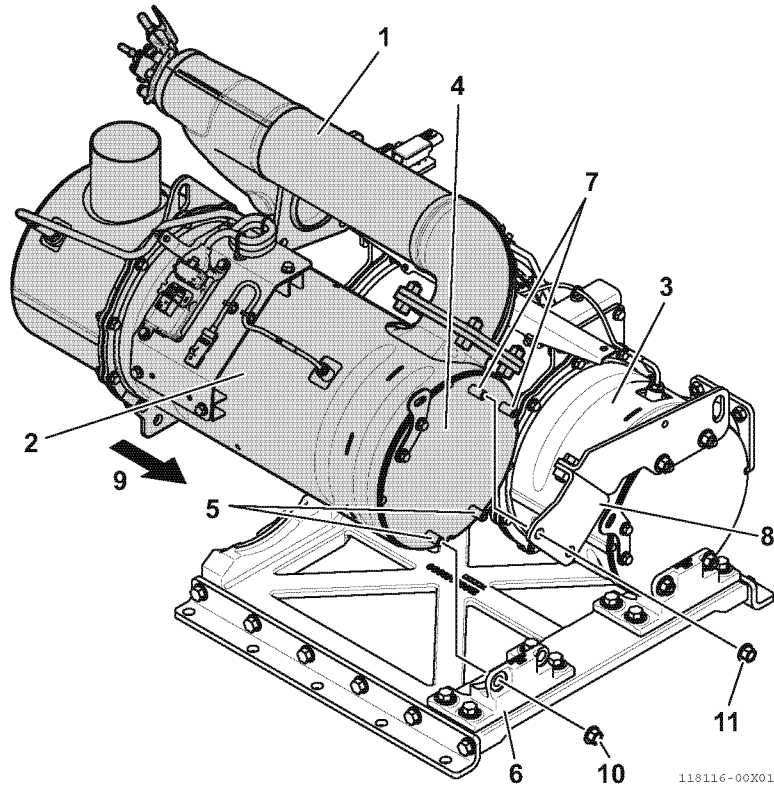

Fig.25-71
- 1 - After installing the SCR pipe assembly (1, Fig.25-71) to the SCR (2, Fig.25-71), install the SCR to the DPF (3, Fig.25-71). Align the stud bolts (2 pcs.) (5, Fig.25-71) at the bottom of the opposite end (4, Fig.25-71) of the SCR exhaust gas outlet with the mounting holes of the SCR bracket (6, Fig.25-71). Also, align the stud bolts (7, Fig.25-71) at the top with the mounting holes of the SCR stay (8, Fig.25-71), and move the SCR in the direction of the arrow (9, Fig.25-71).
- 3 - Using nuts (10, Fig.25-71), (11, Fig.25-71), loosely tighten top and bottom of the stud bolts on the opposite end (4, Fig.25-71) of the SCR exhaust gas outlet.